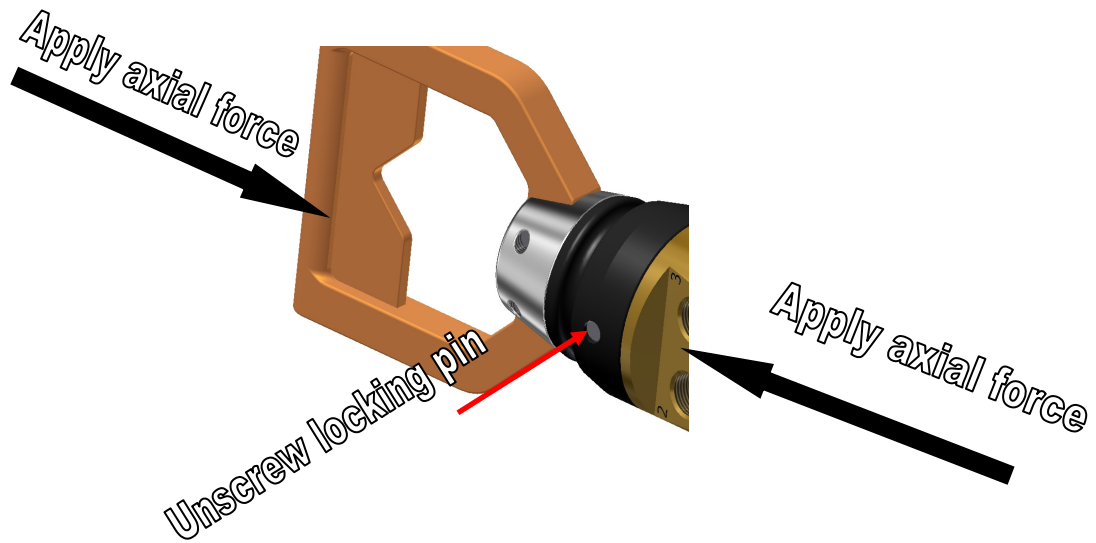

Figure 20 Flex joint installation
1. Secure the Stab in a vice thus applying axial force between the Stab body and ROV Interface according to figure 20